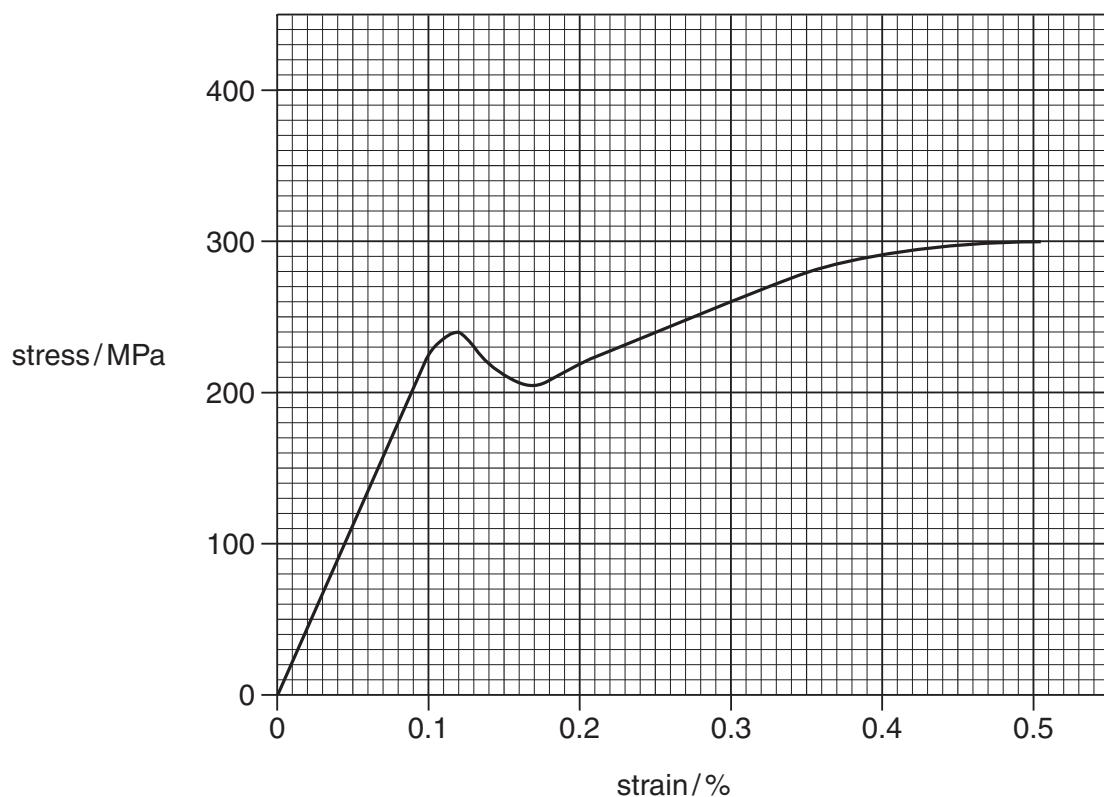

Fig. 3.1
- 3 Fig. 3.1 shows part of the stress against strain graph for mild steel.